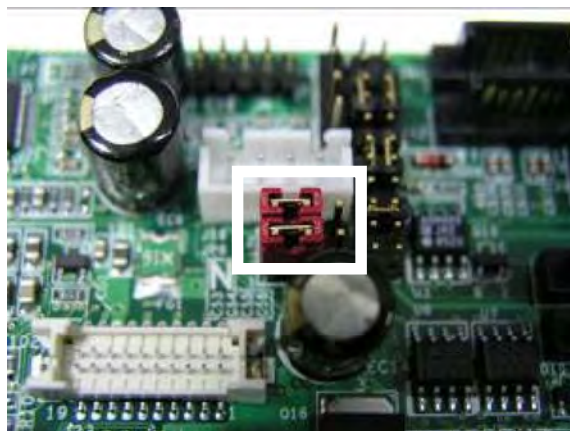

Figure 5-6
Step 1: Please adjust AT/ATX Jumper on JP6 to short 1-3, 2-4 pins, then it can support AT power scheme. (Figure 5-6)